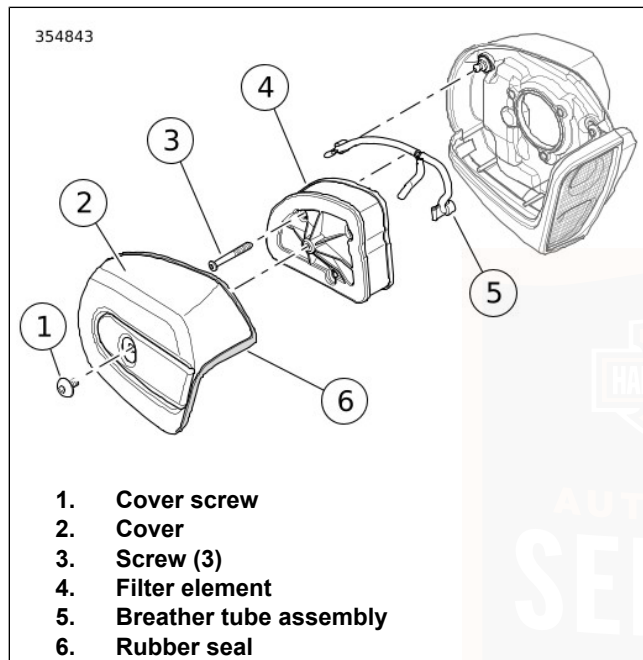

Figure 84. Air Cleaner Assembly
1. See Figure 84. Remove screw (1) and air cleaner cover (2) with rubber seal (6).
2. Remove three screws (3).
3. Remove filter element (4) pulling breather tube from hole on inboard side.
4. Remove breather tube (5) from breather bolts.
1. See Figure 84. Install breather tube (5) onto breather bolts.
2. Install filter element (4) while pushing breather tube into element.
3. Install screws (3). Tighten screws to 4.5–6.8 N·m (40–60 in-lbs).
4. Verify that rubber seal (6) is not damaged and is properly seated around perimeter of air cleaner cover.
5. Place air cleaner cover onto backplate. Apply a drop of LOCTITE 243 MEDIUM STRENGTH THREADLOCKER AND SEALANT (blue) to the threads of screw (1). Install screw. Tighten to 4.1–6.8 N·m (36–60 in-lbs).